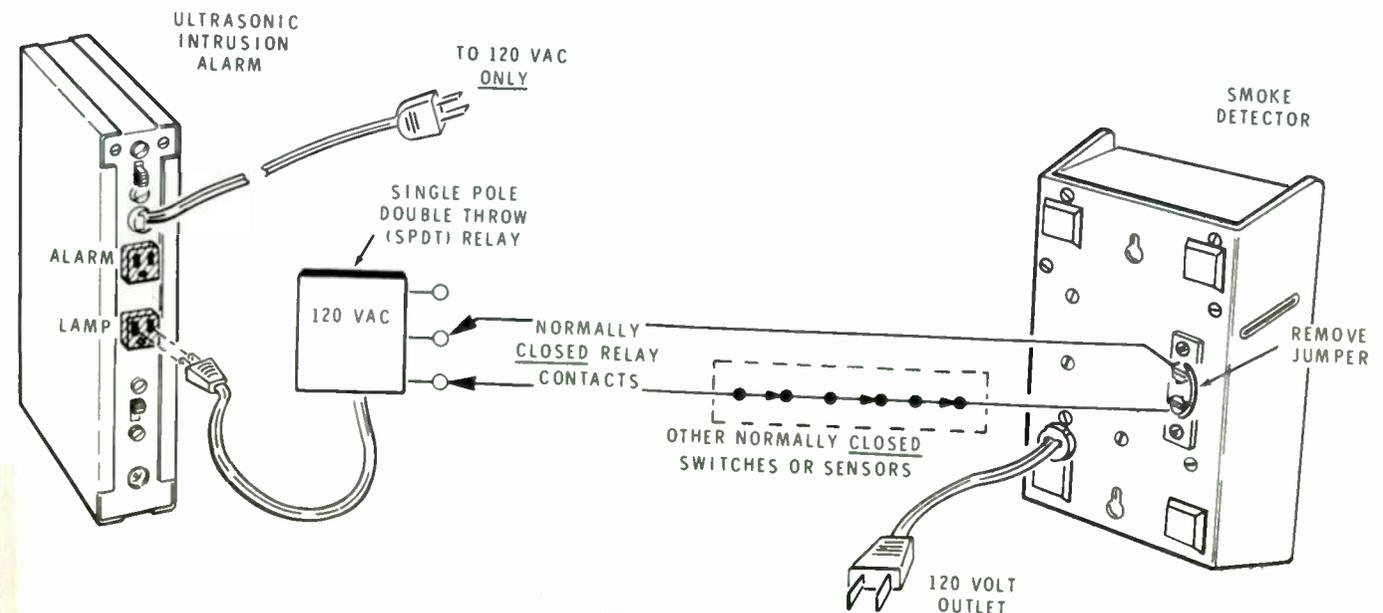

Figure 7
- () Refer to Figure 7 (fold-out from Page 27) and remove the jumper wire from the lugs on the rear of the Smoke Detector.
When connected as shown in Figure 7; smoke, heat, movement, or the opening of a switch or sensor (if used), will cause the Smoke Detector to transmit a signal to the Home Protection Receiver.